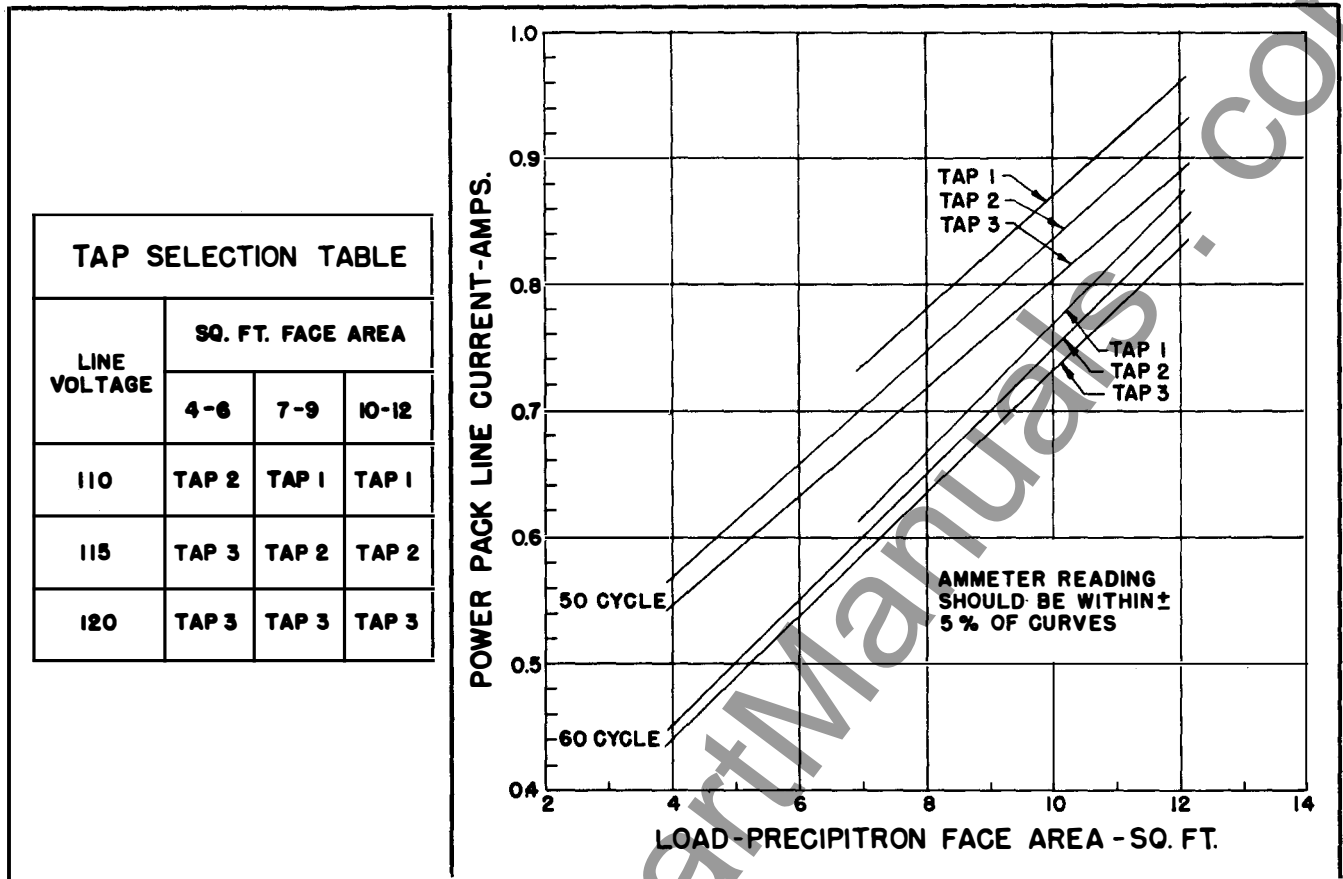

Fig. 4 Input Current vs. Precipitron Load and Transformer Tap Settings
2. Using Fig. 4 select proper transformer tap to compensate for line voltage and face area of PRECIPITRON being supplied by the power pack.
7. When power pack has been adjusted to deliver exactly 13.0 KV to the PRECIPITRON under average line voltage conditions, check ammeter reading and compare with Fig. 4. If line current is more than 5% higher or lower than curves indicate, check PRECIPITRON for faults, correct and repeat adjustment.